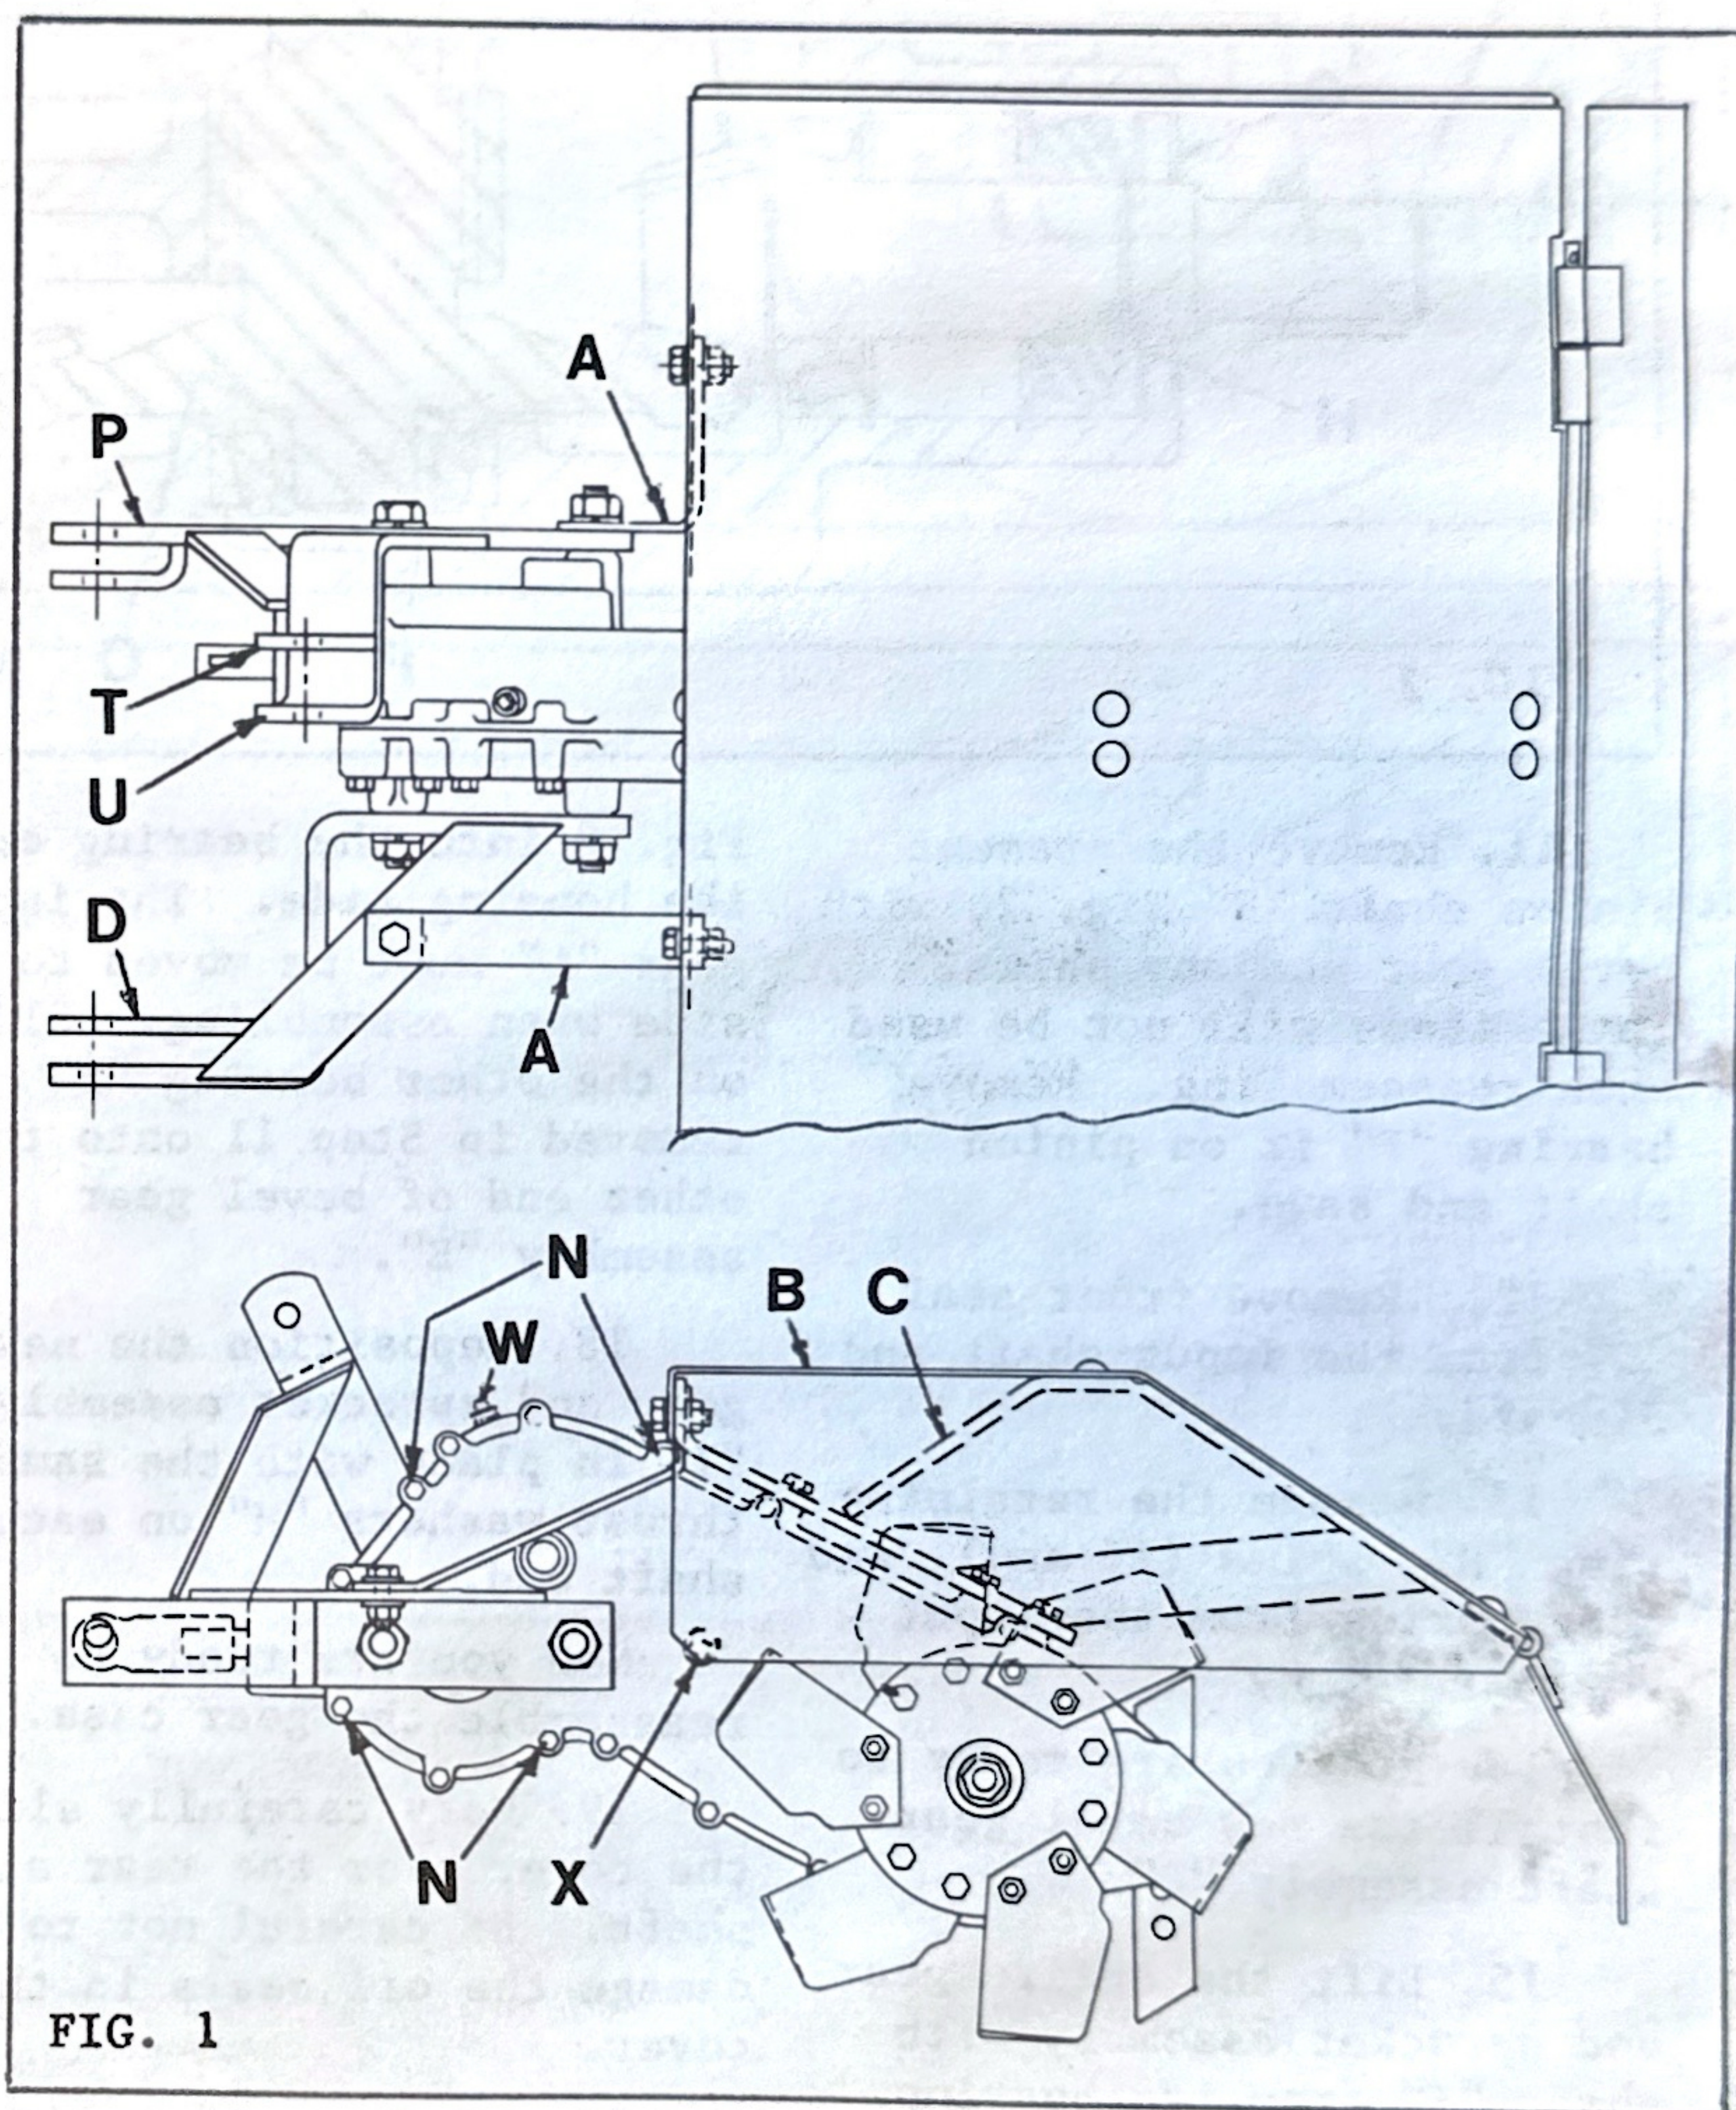

FIG. 1
1. Unfasten and remove support brackets "A" Fig. 1 from the tiller hood and save.
21. With the cover in place, fasten the cover to the housing at four holes "N" Fig. 1.
35. Position the yoke end of the lift cable "S" over the lift arm of the tiller. Hydrostatic tractors use hitch arm "T", Fig. 1, on the tiller, and gear drive tractors use hitch arm "U". Secure with a 1/2 x 1-1/4 clevis pin and hitch pin.
40. Fill the gear case with EP90 gear lubricant in the fill plug "W" till it reaches the oil level plug "X". See fig. 1.